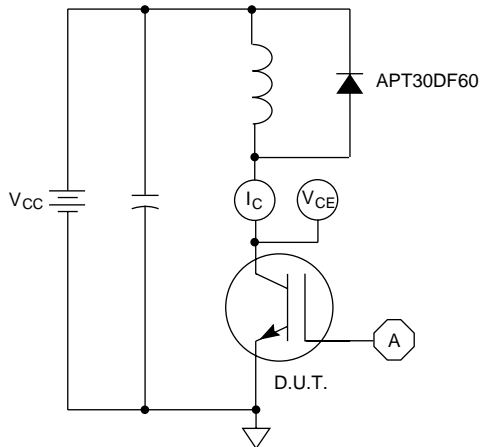

Figure 21, Inductive Switching Test Circuit
- ⑤  $E_{on2}$  is the clamped inductive turn-on energy that includes a commutating diode reverse recovery current in the IGBT turn-on switching loss. A Combi device is used for the clamping diode as shown in the  $E_{on2}$  test circuit. (See Figures 21, 22.)
- ⑥  $E_{off}$  is the clamped inductive turn-off energy measured in accordance with JEDEC standard JESD24-1. (See Figures 21, 23.)
- ⑦ Continuous current limited by package lead temperature.